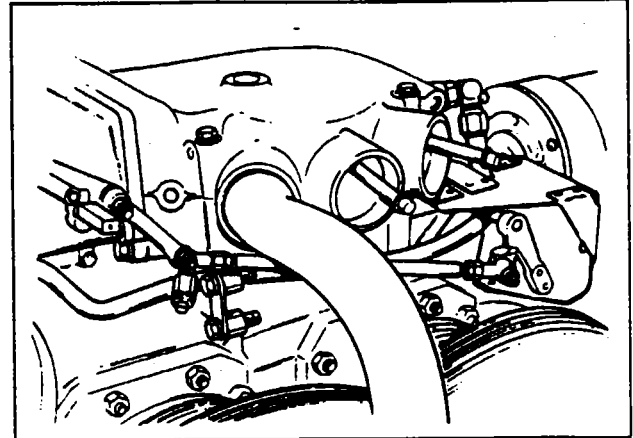

Figure 13c. Obtaining clearance of throttle lever in full open position.
- f. Replace gauge (ST-318) on injector stop pin with the side marked ".025" up. This is the desired clearance between the pad of the throttle arm and the injector stop pin with the throttle lever in full open position. Move cross shaft control lever forward to put injector throttle lever in full open position and maintain a constant pressure between the throttle arm pad and the gauge while completing the following step. (See Figure 13c.)